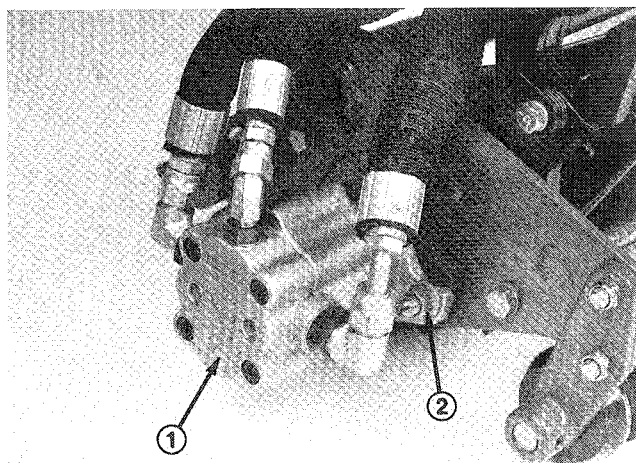

Figure 9
8. Assemble the mounting nuts for the reel drive motor to each cutting unit (Fig. 9). Leave approximately 1/2" of threads exposed on each mounting stud.